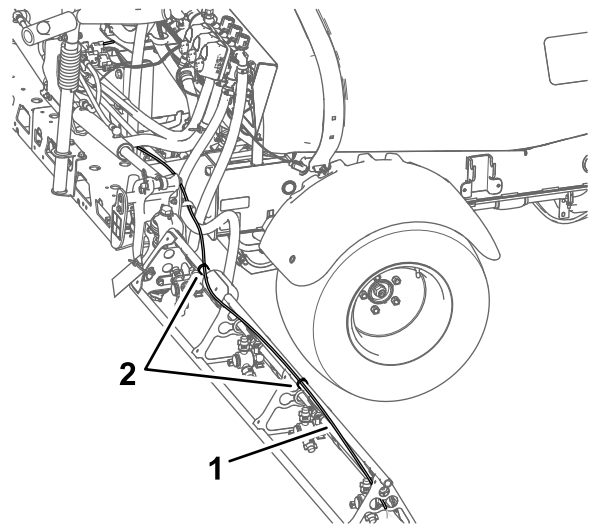

Figure 24
4. Route the tube assembly along rear side of the upper support pole of the outer-spray section as shown in Figure 24.
6. Secure the tube assembly to the outer-spray section with cable ties as shown in Figure 24.